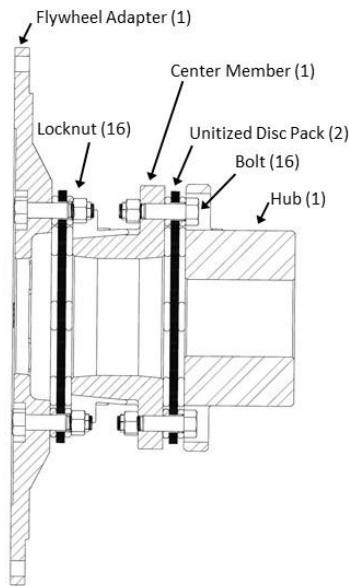

Figure 2: GC Model (Flywheel to Hub)
- d) Move the equipment to be connected into position. Set the gap to the required distance between shaft ends, DBSE dimension. See Fig. 2 or 3 and Table 2
- c) As a guide, the "DBSE" dimensions are given for GC and GA couplings, along with dimensional tolerances recommended for initial installation. Additional capacity is available to compensate for thermal and structural movement. Maximum axial capacity values for these couplings are also given. See Table 2 and Figures 2 & 3.
With the coupling in good alignment, the bolts will fit through the holes in the flanges and the disc packs more easily. See Figures 2 and 3.
- i) On a workbench, or floor, assemble one unitized disc pack to the center member and flywheel adapter, installing all bolts as shown in Figure 2.